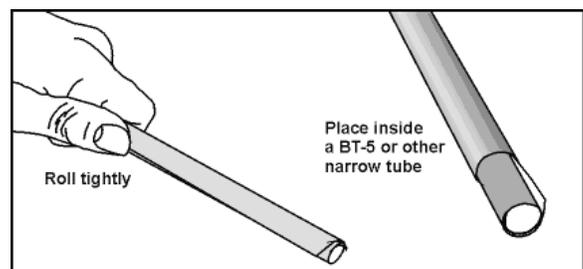

Figure 3
3. Tightly roll the Body Tube until it is narrow enough to fit **INSIDE** a narrow tube (like a BT-5 body tube). Place this inside the narrow tube, as shown in **Figure 3**, and set aside. This will help it to retain its shape as you go on to the next few steps.